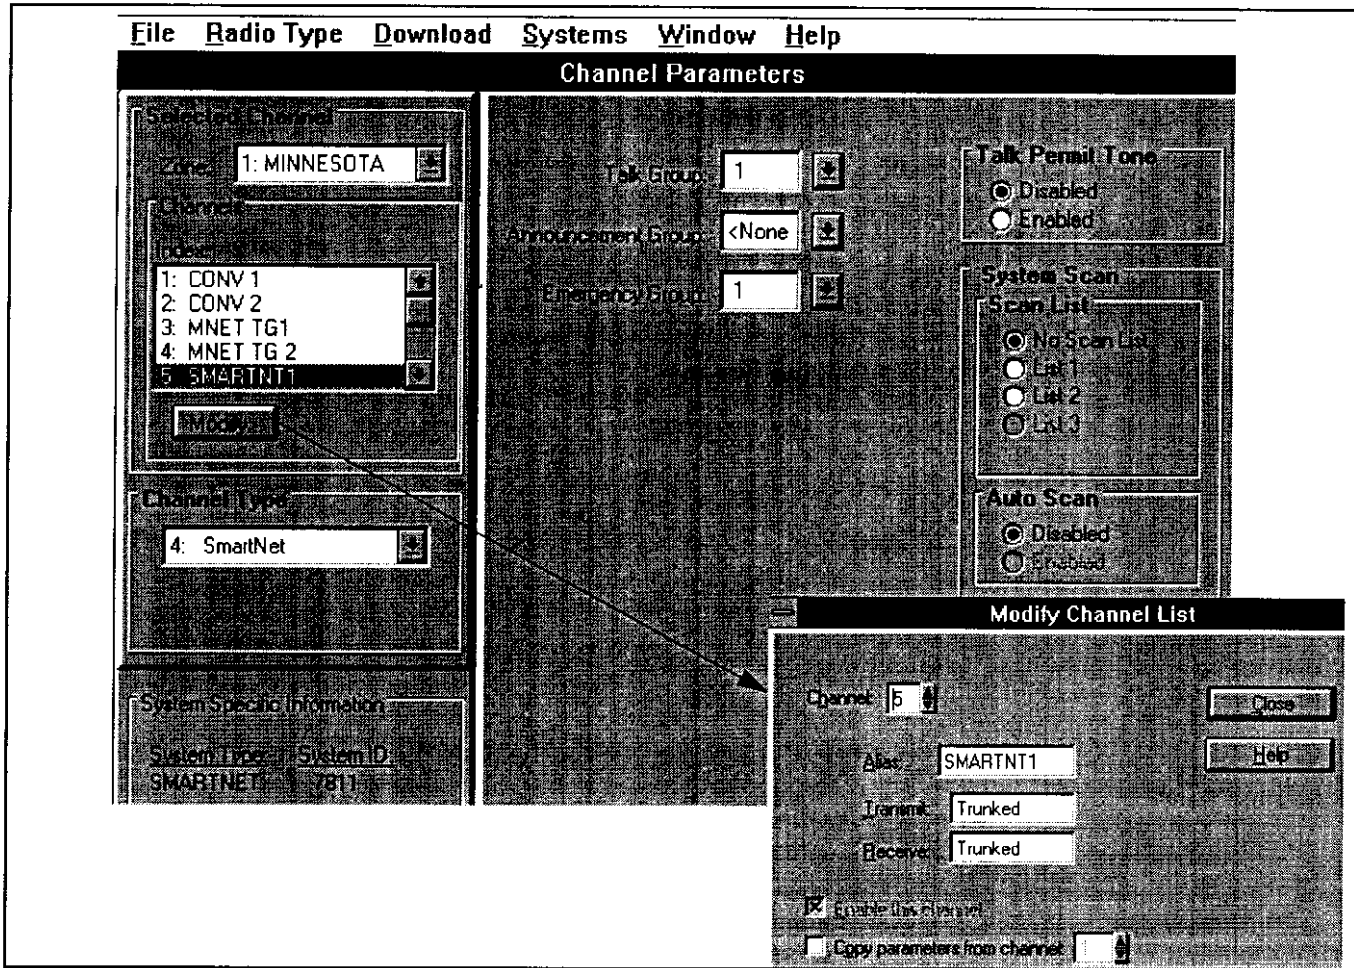

Figure 4-4 SmartNet/SmartZone Channel Screen
The SmartNet/SmartZone Channel screen shown in Figure 4-4 is displayed when the SmartNet or SmartZone channel type is selected. The channel screen programs unique channel parameters and also assigns channels to the selectable zones displayed by the transceiver.
4. Click the Modify button to display the dialog box shown in the lower part of Figure 4-4. This box programs the alias (tag) that is displayed when it is selected.
The following parameters are programmed in the SmartNet/SmartZone channel screen shown in Figure 4-4.
**Modify** - Displays the screen shown in the lower part of Figure 4-4. The parameters programmed in this screen are as follows: